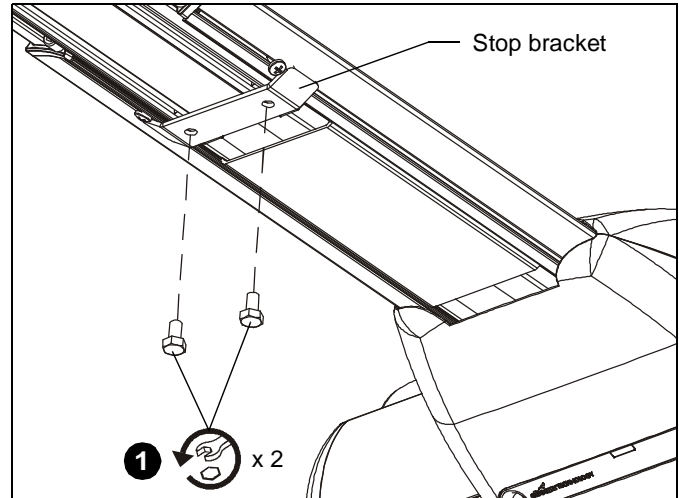

Figure 46
1. Remove two bolts holding stop bracket in place on underside of short throw projector mount. (See Figure 46)